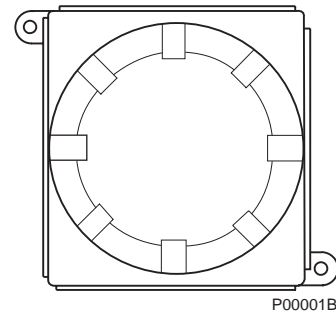

Figure 1-1. CENELEC Approved HPS 3000 Heater Power Supply Field Module
- 1-1. **DESCRIPTION.** The Rosemount CENELEC approved HPS 3000 Heater Power Supply Field Module (Figure 1-1) acts as an interface between probe and electronics and supplies power to the probe heater. The unit allows the use of probes with a number of different electronics packages.